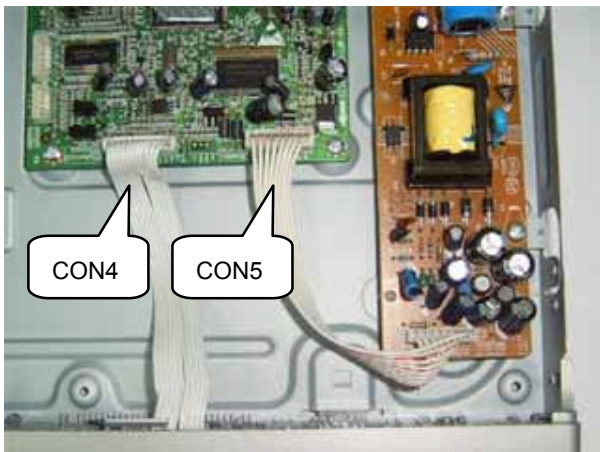

Figure 5
Step4: Dismantling Front Panel: disconnect the connector aiming in the figure, then release the snaps on the both side of Front panel and gently pull the panel out from the set. (Figure 5&6)